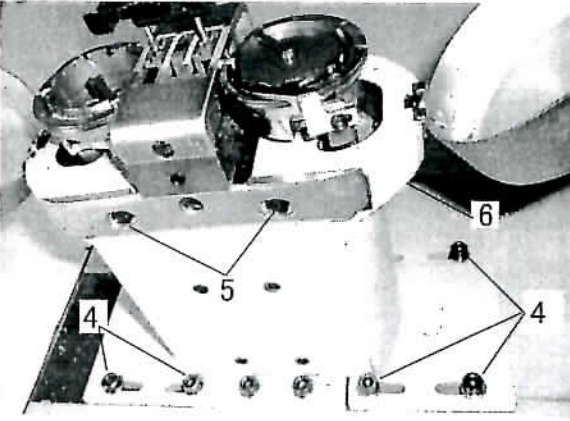

Fig.21
### 15. TIMING BETWEEN THE HOOK AND THE NEEDLE (Fig. 21, 22&23)
- 1) Normal clearance between hook point and scarf of the needle is in 0.02 - 0.1 mm. (Fig.21).